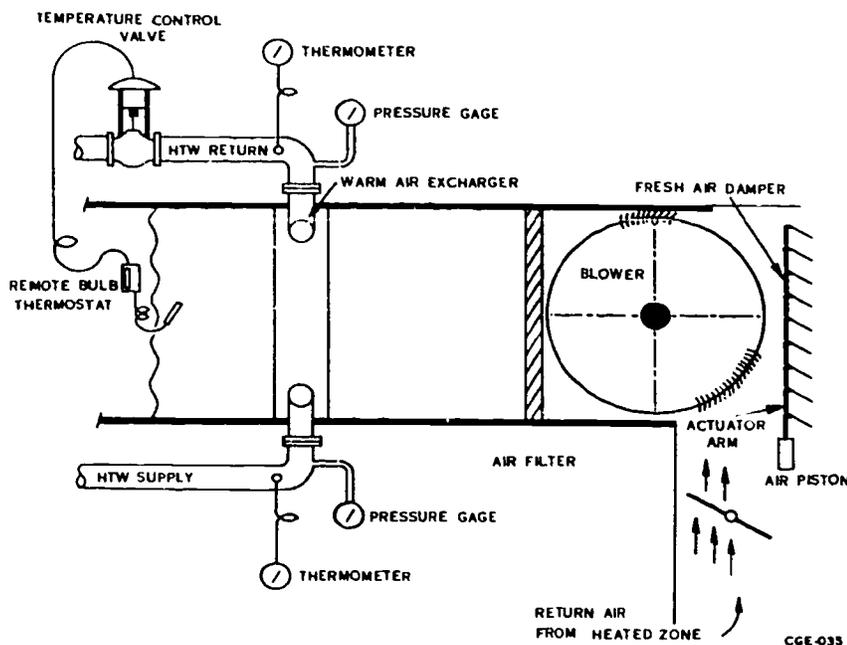

Figure 64. Air Heating Coil
Piping expands when the temperature increases; consequently, the ASA establishes the units of expansion for steel or wrought iron pipe, which are given in figure 63. From figure 64, we see that a 100-foot steel or wrought iron pipe expands 3 inches when the temperature changes from 0°F to 400°F.
Air heating coils are often referred to as warm air exchangers and are installed in a duct or plenum chamber along with a fan or blower. Air filters are normally installed between the blower and the return air from the building being heated or use a percentage (up to 100 percent) of fresh (outside) air. When fresh air is used, precautions must be taken to prevent freezing of the coil during winter operations. This can be accomplished in one of the following manners: (1) installation of a freeze-stat which closes the outside air damper or shuts off the fan; or (2) setting the HTW control valve to a minimum closed position. In most systems, the blower operates continuously and the HTW circulating through the coils is regulated by a temperature control valve or a motorized valve. The sensing bulb of the temperature control valve is installed in the heating duct on the downstream side of the heating coil. The motorized valve is actuated by a remote bulb thermostat. The sensing bulb of the thermostat is installed in the same location as the temperature control valve sensing bulb. The heating coils may be constructed of red brass, provided the HTW is maintained below 400°F. For temperatures of 400°F and above, cupronickel or steel should be used. Figure 64 illustrates a typical HTW air heating coil. The HTW is circulated around the coils. The control valve is mounted on the HTW return side of the coil to permit to control a relatively cooler liquid than the HTW supply. (Most HTW systems are designed for a 150°F temperature drop between the HTW supply and return.) Temperature and pressure gauges are installed on both the supply and return sides of the HTW coil to determine the load drawn by the heat consumer. Air heating coils are normally installed in specially designed mechanical or utility rooms.